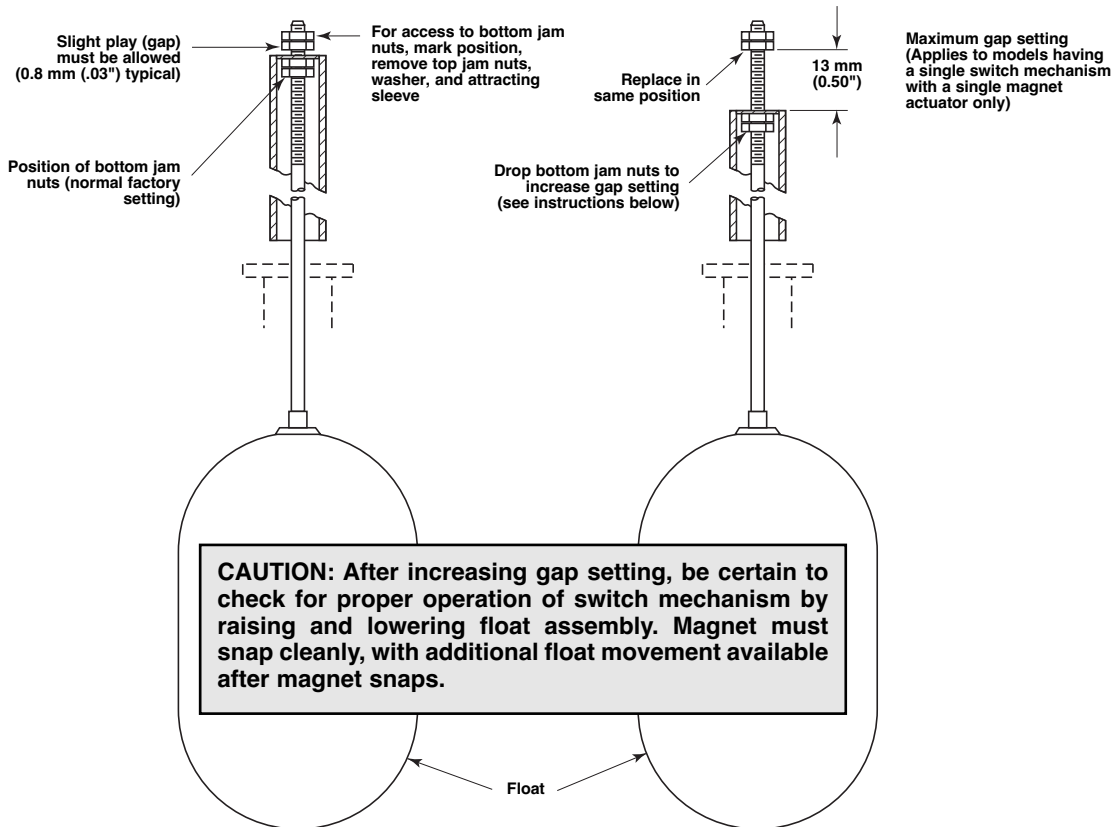

Figure 6
The differential, or the amount of level travel between switch-on and switch-off, may be adjusted by repositioning the lower jam nuts on the float stem. The standard factory setting is for a minimum amount of play (gap) between the top jam nuts and the attraction sleeve as shown in **Figure 6**.
*NOTE: The amount of level travel between switch-on and switch-off actuations (differential) may be field adjusted by repositioning the lower jam nuts on the float stem. The standard factory setting is for a minimum amount of play (gap) between the top jam nuts and the attraction sleeve, as shown in **Figure 6**. This setting may be increased to a maximum of 13 mm (0.50"), as shown in **Figure 7**.*